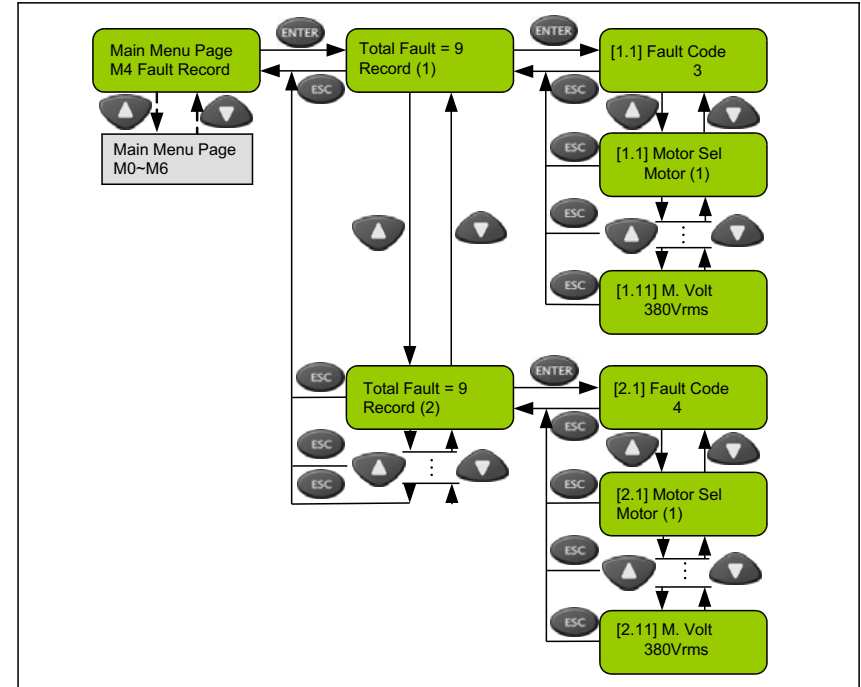

Figure 6.2-6"Faults read"method instruction
In M4 Fault record page, users can monitor the number of Faults, Fault code and operation status when it occurs. Total 9 Faults are saved from Record(1) to the last occurred Fault. If Faults are occurred more than 9, the oldest Fault record is erased. Refer to Figure 6.2-6 for KEYPAD usage and the setting instruction.